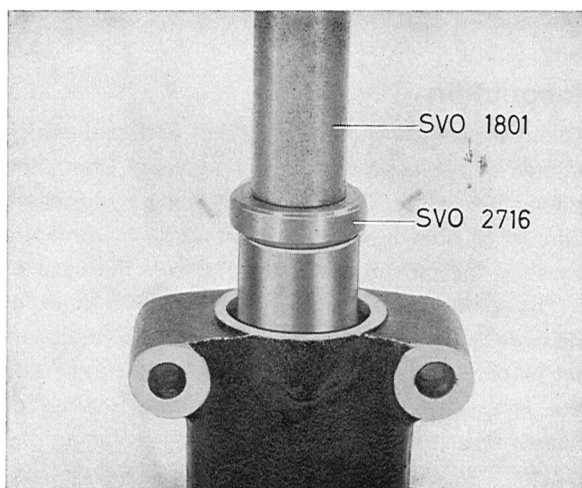

Fig. 6-58. Installation of pitman arm shaft bushing
1. Press the bushings of the pitman arm shaft from opposite directions with drift 2716 and standard handle 1801, see Fig. 6-58. Ream the bushing